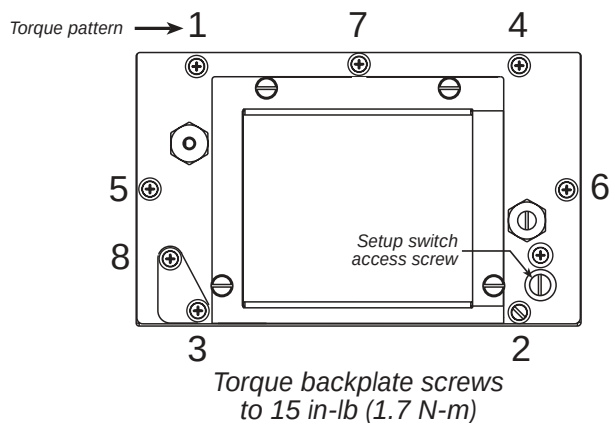

Figure 2-4. IQ plus 390-DC Enclosure Backplate
- One 8-32NC x 7/16 fillister head screw (PN 30623). This screw occupies the hole below the setup switch access screw on the indicator backplate (see Figure 2-4 on page 9).
Once cabling is complete, position the backplate over the enclosure, reconnect battery cable, and reinstall the backplate screws. Use the torque pattern shown in Figure 2-4 to prevent distorting the backplate gasket. Torque screws to 15 in-lb (1.7 N-m).
To replace the CPU board, reverse the above procedure. Be sure to reinstall cable ties to secure all cables inside the indicator enclosure. Replace backplate and torque screws as shown in Figure 2-4.